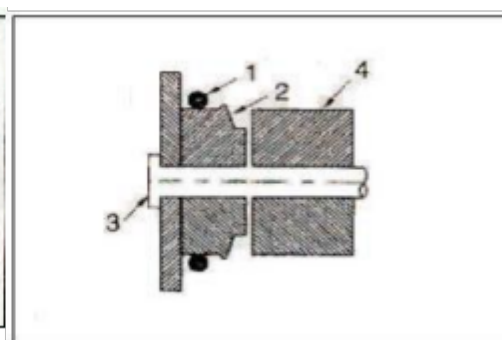

Fig 4.45
2. Move the 0-ring 1 (Figure 4-45) to the bushing 2, then remove the bucket pin 3 and pull out the bucket rod or bucket connecting rod pin.